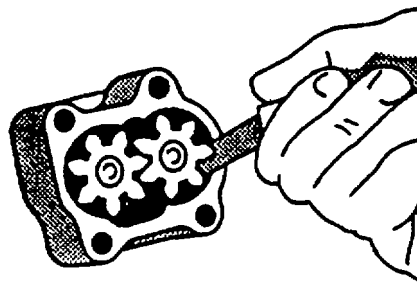

FIGURE 3-55. Measuring Oil Pump Radial Clearance
- e. Using feeler gage, check radial clearance between gear and pump housing, refer to FIGURE 3-55. Clearance standard is 0.004 to 0.006 inch (0.10 to 0.16 mm). Maximum permissible radial clearance is 0.008 inch (0.20 mm).